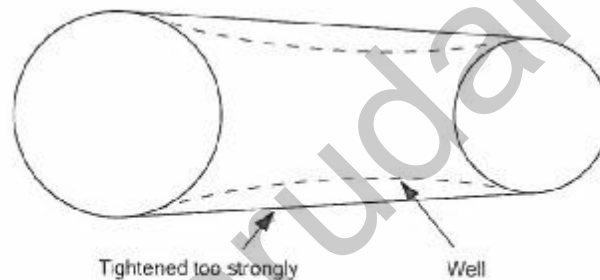

Fig. 1.2
6. Push with one hand the molar upwards, and place the driving belt (attached to the sewing machine) (M10012) around the pulley of the motor. Push the motor down to stretch the belt slightly as seen in (FIG 1.2).